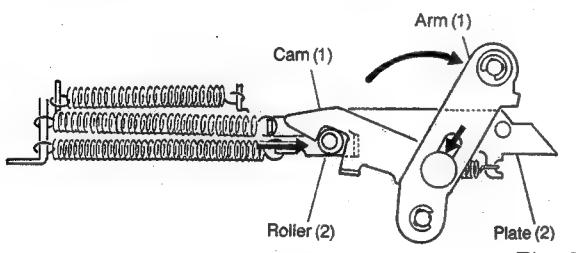

Fig. 2
2. Cam (1) draws Roller (2) to the right (see Fig. 2). With this, the fulcrum of Cam (1) causes the oval hole in Arm (1) to move downward.